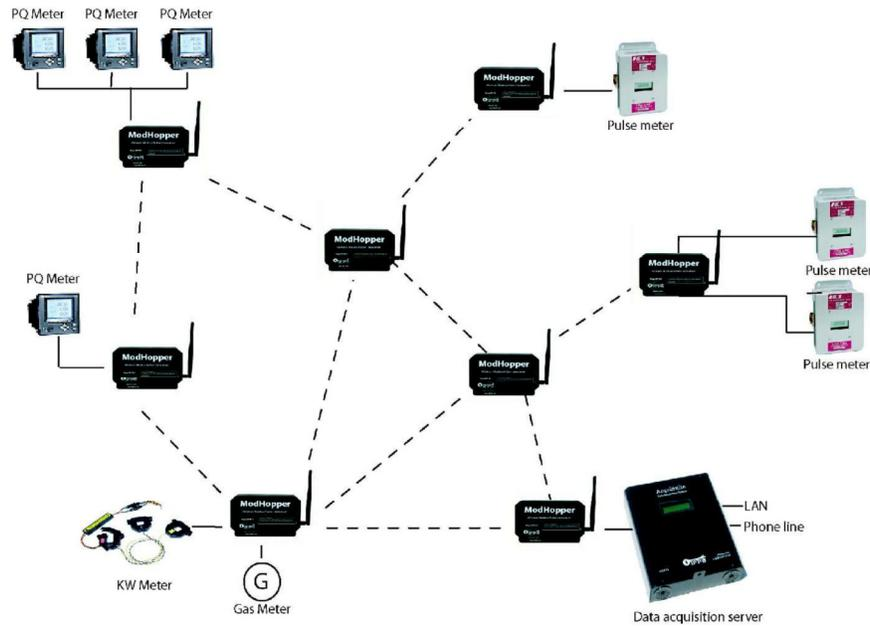

Figure 1 – Mesh network topology
***What are wireless mesh communications?*** Mesh wireless radio systems are based on the principle that the system will determine the optimal path for transmission of data and that the data will be routed through one or more other nodes on the network before reaching its final destination (see Figure 1). The primary advantages to a mesh network topology are that each node can have multiple potential paths and that each node is continually evaluating the success of its transmissions and can change paths dynamically in the event an existing path is interrupted or new nodes are added.
As Figure 1 illustrates, each node in this network can have one or more meters connected to it. When a request is received from the AcquiSuite DAS (see below) or other Modbus master for data from one of the ModHopper nodes, the node attached to the AcquiSuite determines the optimal path for routing this request to the appropriate ModHopper node on the network. As this illustration shows, several of the ModHopper nodes have communication links with multiple other nodes and thus have several options for routing the data request and the reply to the AcquiSuite. In the event one of the nodes is occupied or off-line, the ModHopper can automatically route the data to a different node for forwarding to the requesting device.